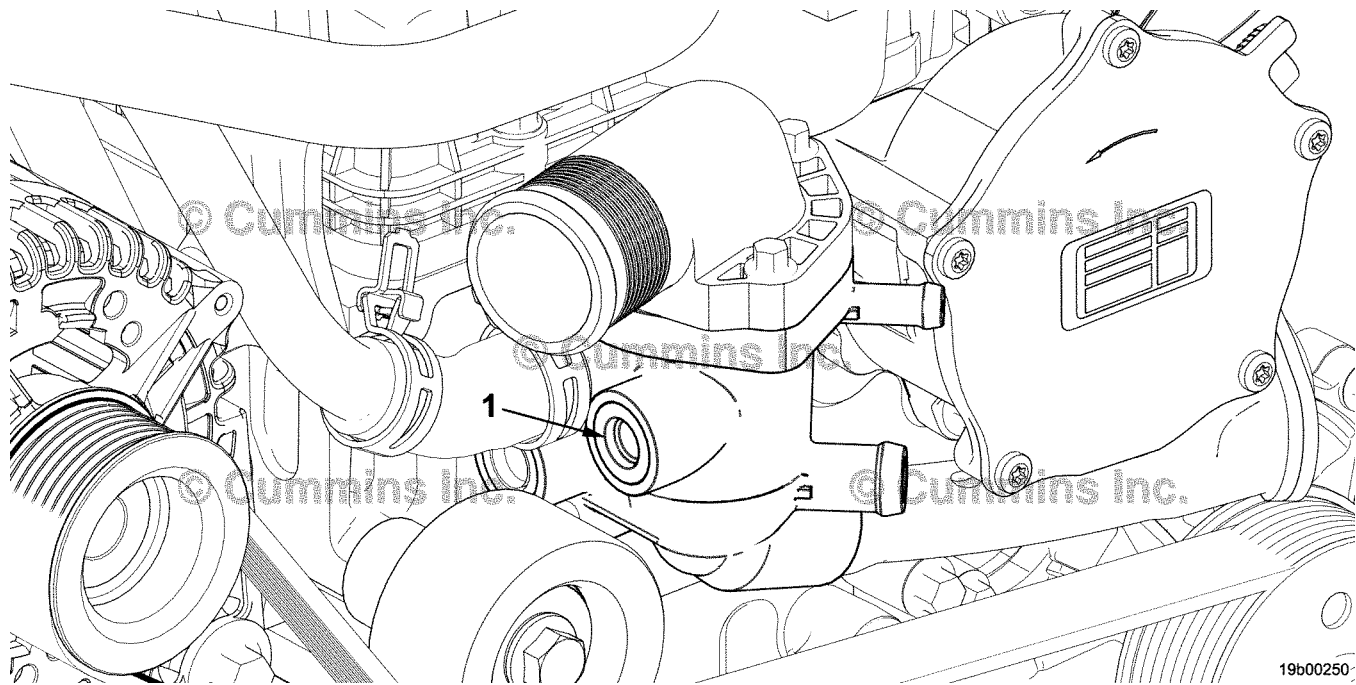

Figure 7 - Auxiliary Coolant Sensor Location
Should an auxiliary coolant temperature sensor be required for an accessory device or dash gage, there is a port on the engine that can be used. This sensor is customer-supplied. An M12 port (1) is shown below in Figure 7, located between the coolant outlet and the FEAD idler pulley.